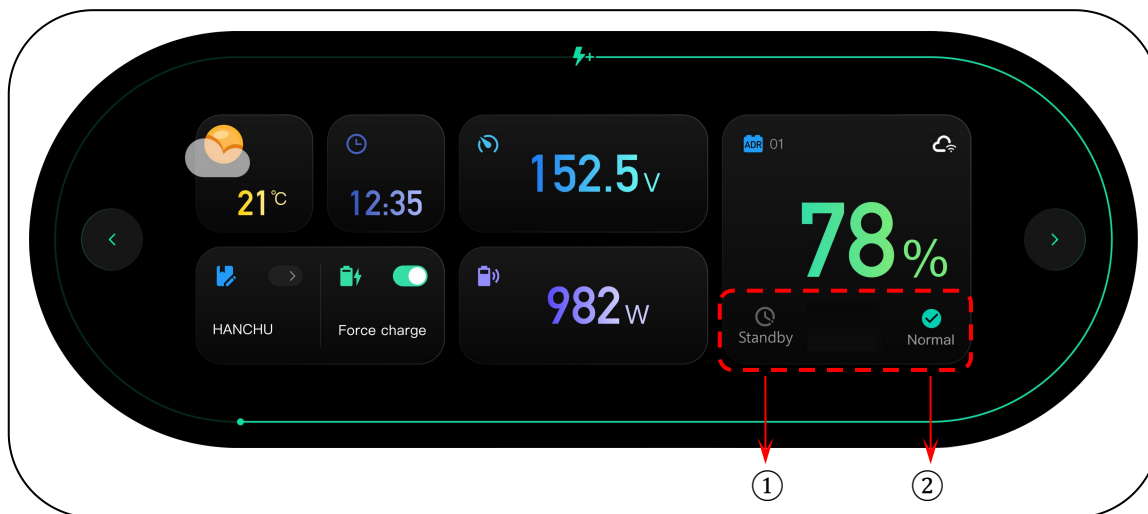

Figure 30 Normal State Of the Battery System
- Observe the icon at the bottom right of the display, the battery system is in “Standby”^①, and ensure that the battery system is “Normal”^②, as shown in Figure 30.